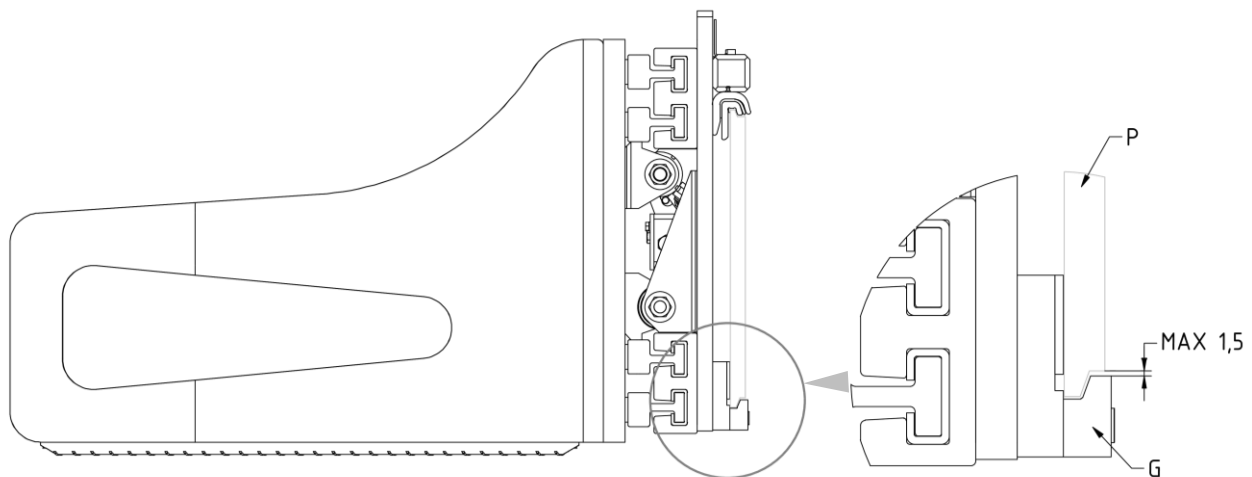

Figure 8
9. Screw on the 2 lower couplings G in such a way that their bodies also remains coupled to the lower part of the fork carriage P (with max. clearance of 1.5 mm, see detail *Figure 8*), tightening with the torque indicated in *Table 4*.
3. Check clearance between the lower part of the fork carriage and the lower equipment couplings, ensuring that it is as shown in *Figure 4* (page 13) and in *Figure 8* (page 16) and, if necessary, adjust the bolts holding them in place.